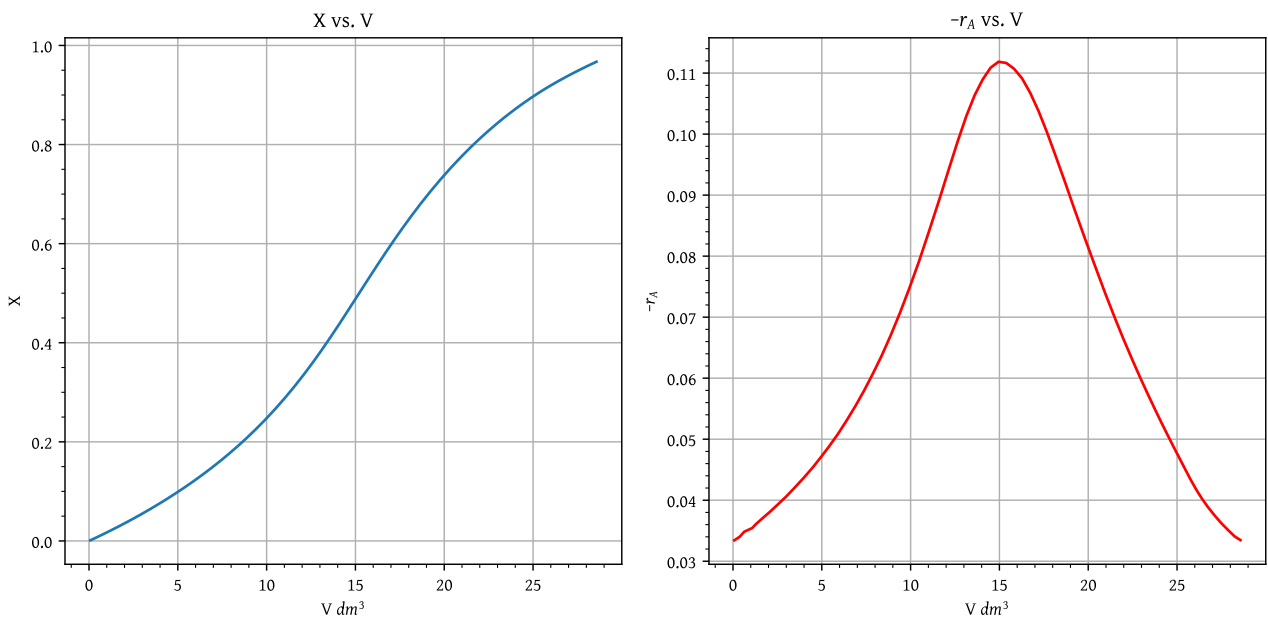

Figure 28: Reactor conversion and rate as function fo volume
- Plot the rate of reaction and conversion as a function of PBR catalyst weight,  $W$ . (Data table: Table 4; Plots: Figure 28)